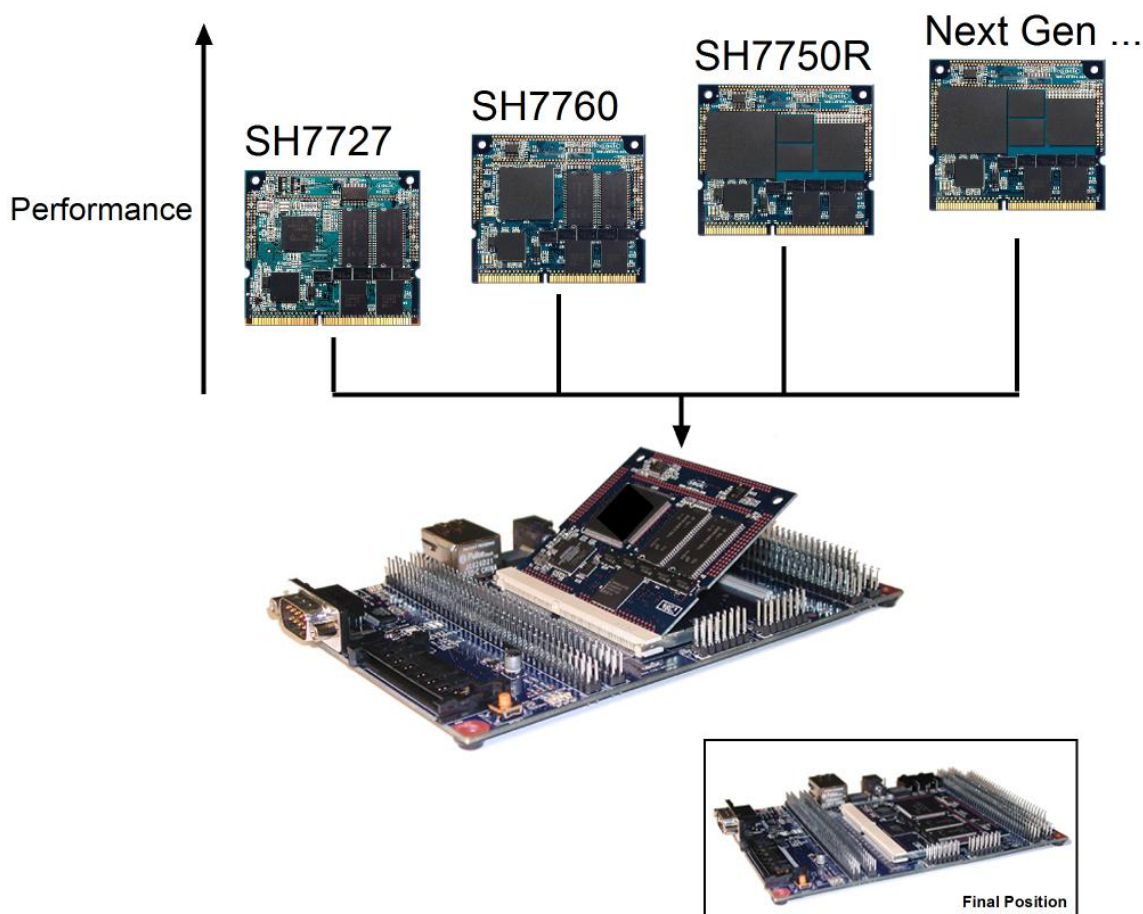

Figure 1.1: Card Engine Advantages
- **Common Card Engine footprint** (See Figure 1.1)